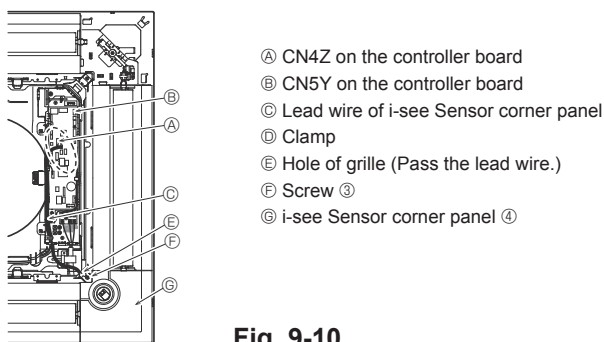

Fig. 9-10
9.4.6. Installation of i-see Sensor corner panel (Fig. 9-10)
- Route the lead wire connector (white, 4 poles and white, 5 poles) of the i-see Sensor corner panel ④ from the side of the electrical box on the main unit and connect to the connector CN4Z and CN5Y on the controller board.